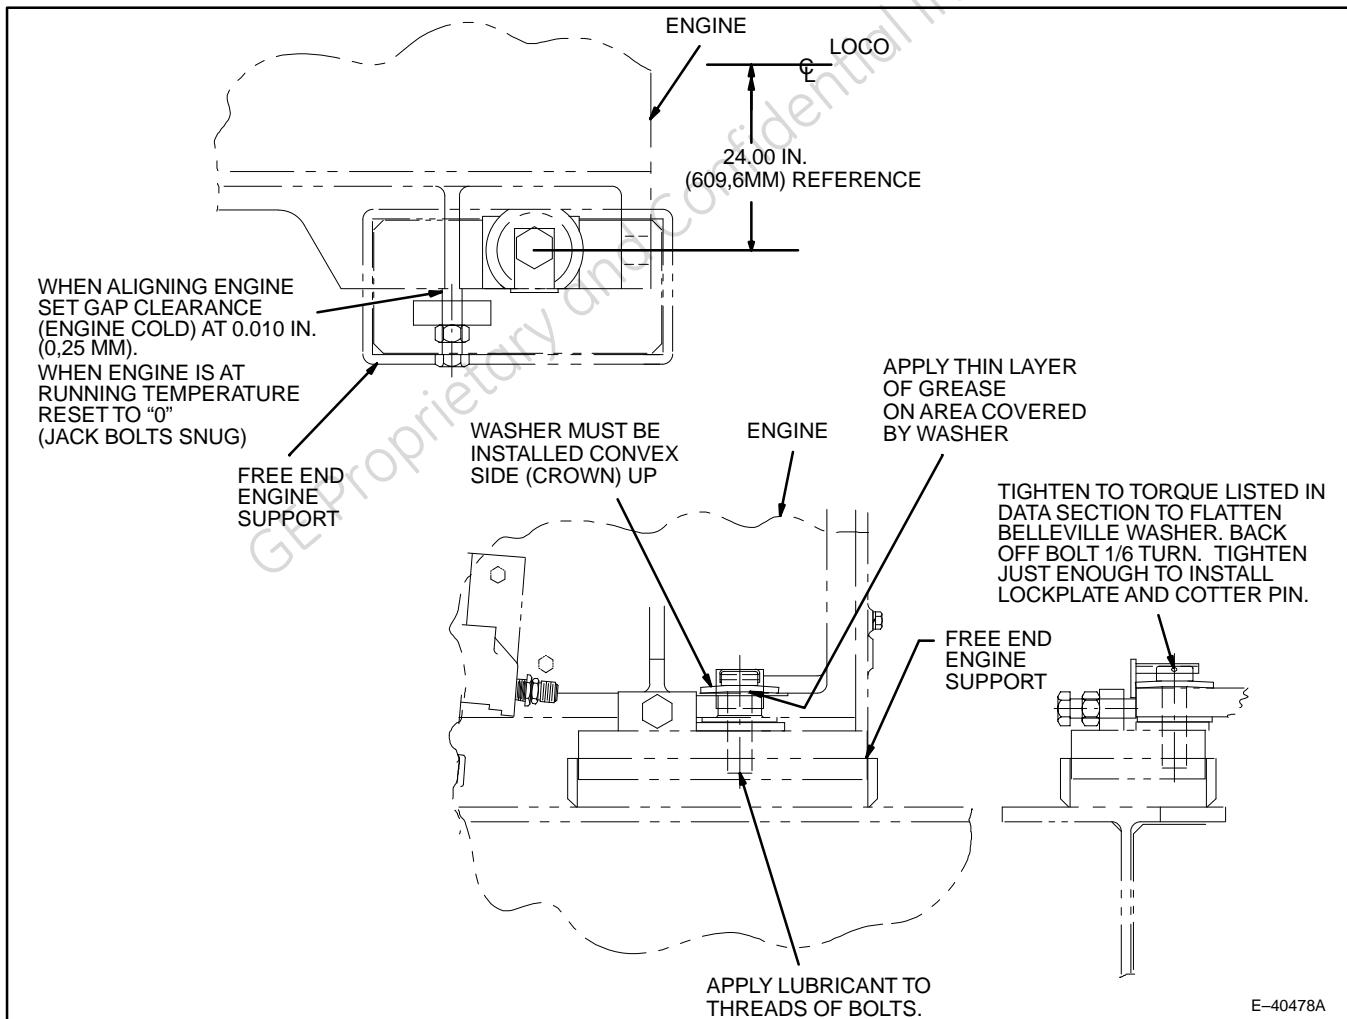

Figure 57. Engine Mounting Arrangement, Free End.
7. Secure the mounting bolts at the free end of the engine as follows (Figure 57):